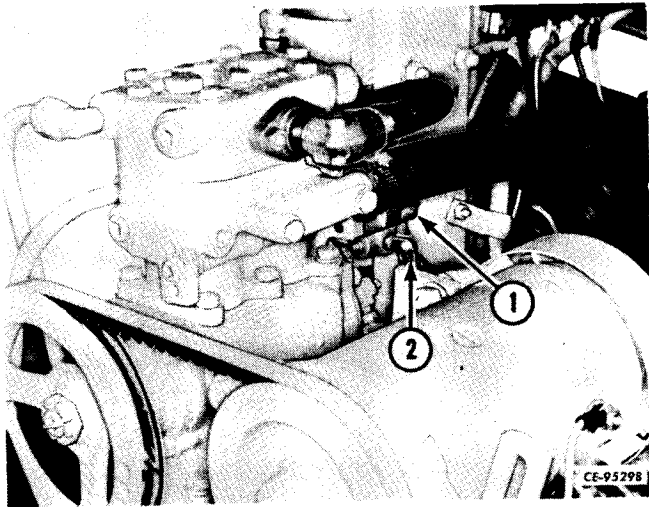

Figure 13-3
Disconnect the unloader line (2, Fig. 13-3) from the governor (1). Remove the cap screws, lock washers and nuts that secure the governor. Remove the governor.